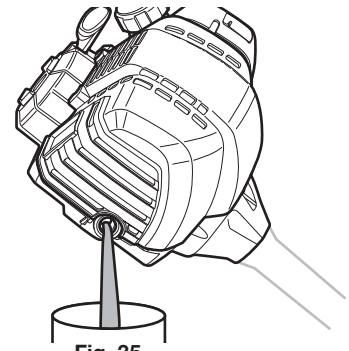

Fig. 35
- If the oil level is too high, tip the unit and drain the excess oil into an appropriate container (Fig. 35).
3. Tip the unit vertically to pour the oil out of the oil fill hole and into a container (Fig. 35). Allow ample time for complete drainage.